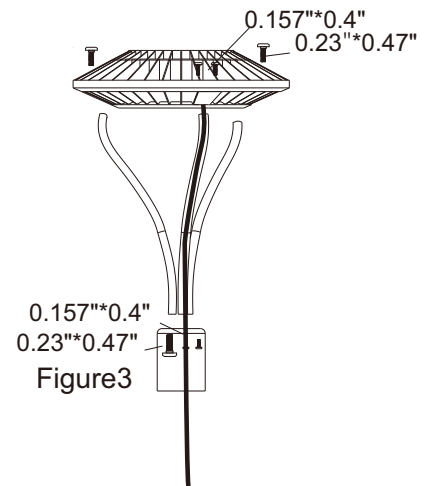

Figure 3
3. Twist the corresponding screw into the corresponding lever arm and tighten it (Figure 3)